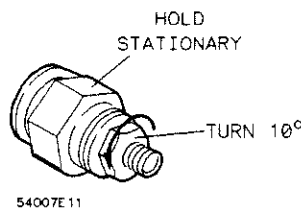

Figure 4A-9. Counter Rotation Technique
2. Make the preliminary connection by attaching the connector nut of the male connector to the female. The male connector is held stationary as the female connector is tightened and draws the male pin into the female connector. Refer to figure 4A-8. Any other method used may cause the male pin to damage the female connector. Support the body of the device and turn the connector nut until the mating surfaces make light contact. Do not overtighten. All you want is a connection of the outer conductors with gentle contact at all points of both mating surfaces.